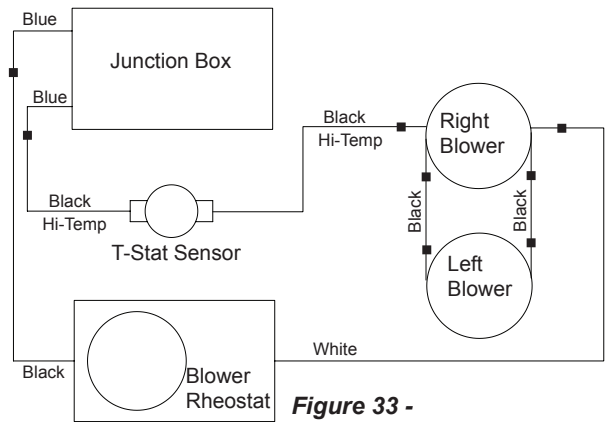

Figure 33 -
3. The junction box cover has a factory installed “romex” style strain relief connector. After connecting the wires, route the wire leads through this connector. Refer to the wiring diagram in *Figure 33*.